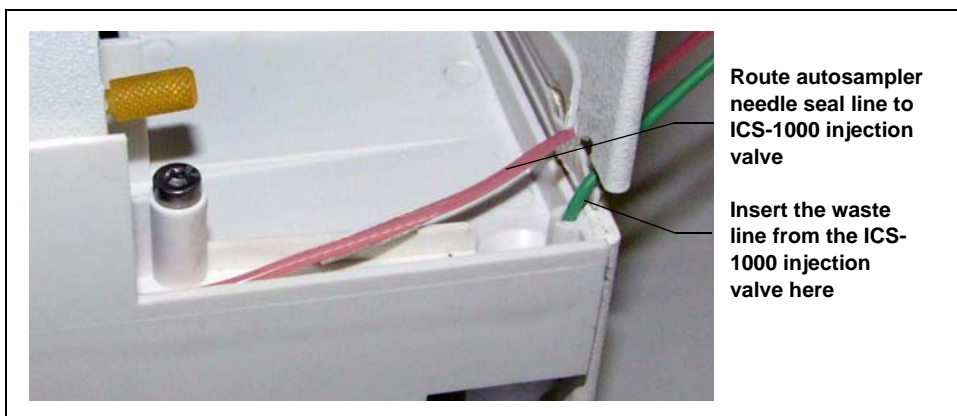

Figure B-38. Autosampler Drip Tray
3. The needle seal line that extends from the inject port in the autosampler is coiled inside the autosampler door, on the right side. Route this line through the autosampler right side slot (see Figure B-38) and the ICS-1000 left side slot to the ICS-1000 injection valve.
6. Push the end of the green **AS/AS50 TRAY** line into the small round opening on the right side of the AS or AS50 (USB) tray (see Figure B-38).